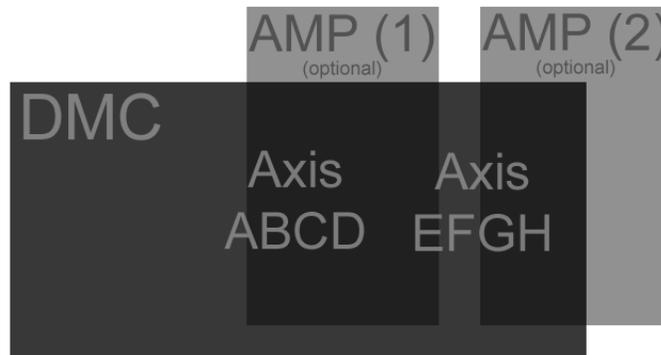
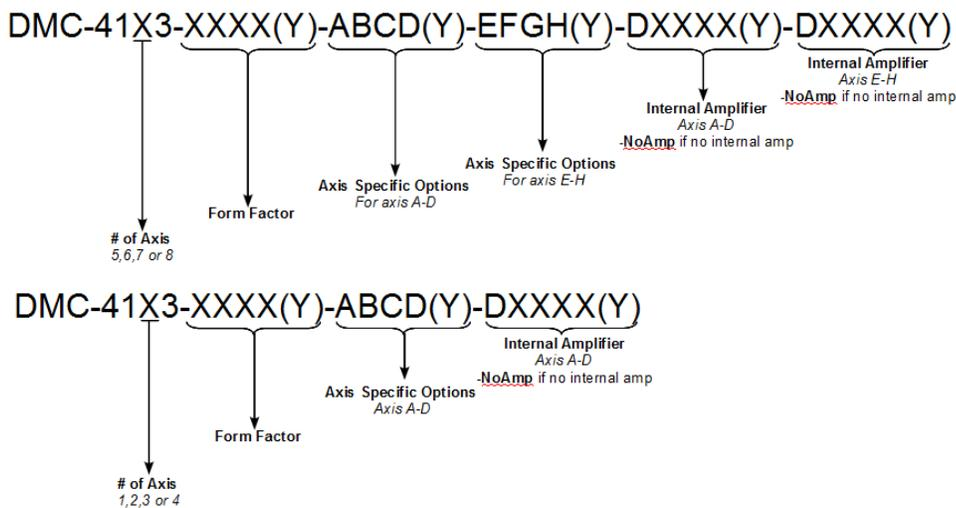

Figure 1.2: Abstract layout of a 5-8 axis DMC-41x3 and optional internal amps
Figure 1.3: Layout of the full DMC-41x3 part number
The 5-8 axis models have room for an additional bank of internal amplifiers as shown in Figure 1.2.
The full DMC-41x3 part number is a combination of the DMC controller part number (DMC-41x3), form factor (“-XXXX(Y)), axis-specific options (-ABCD(Y) and -EFGH(Y)), and optional amplifier types (-DXXXX(Y)), where Y is customization options for that specific board or set of axis. The layout of the full DMC-41x3 part number is shown in Figure 1.3 below.
The placement of the AMP/SDM options is extremely important for 5-8 axis models. Reading the DMC-41x3 part number in Figure 1.3 from left to right, the first AMP/SDM (Axis A-D) will be placed in the AMP(1) spot as shown in Figure 1.2 and the second AMP/SDM (Axis E-H) will be placed in the AMP(2) spot.